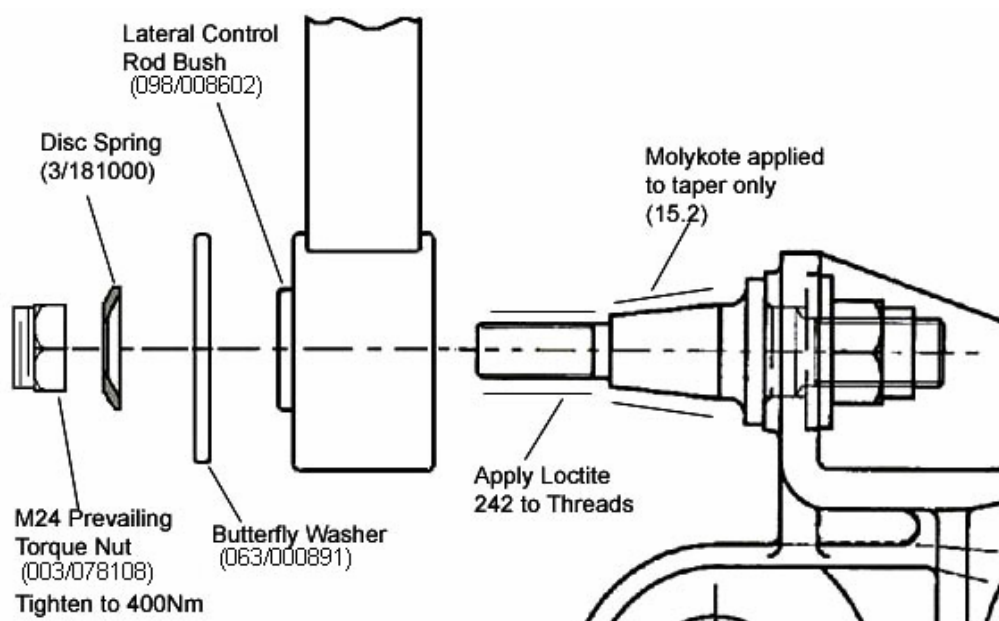

Figure 17.1: Exploded View of Assembly of LCR onto Axlebox Spigot
17.2 Fit the butterfly washer and disc spring to each of the axlebox LCR spigots. The disc spring shall be fitted with the centre portion of the cone abutting the nut clamping face, see Figure 17.1.